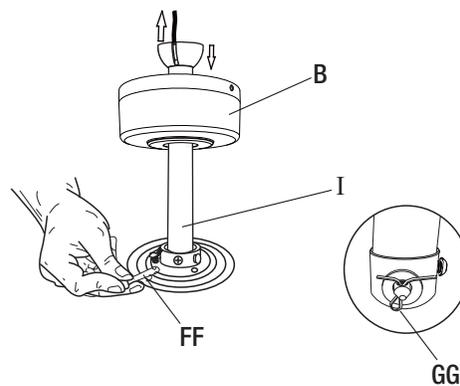

Figure 6
- Loosen the screws first and then insert the downrod assembly (I) into the hanger at the top of the fan motor assembly.
- Push the pivot pin (FF) through the hanger and downrod holes (Figure 6). The pivot pin's cone end is designed so that it will not push away nor harm the wires inside the downrod. Secure the pivot pin (FF) by inserting the split pin (GG) and bending the ends to prevent it from falling out of the holes (Figure 6).
- Secure the hanger and downrod by tightening the screws pre-installed on the hanger (Figure 6).